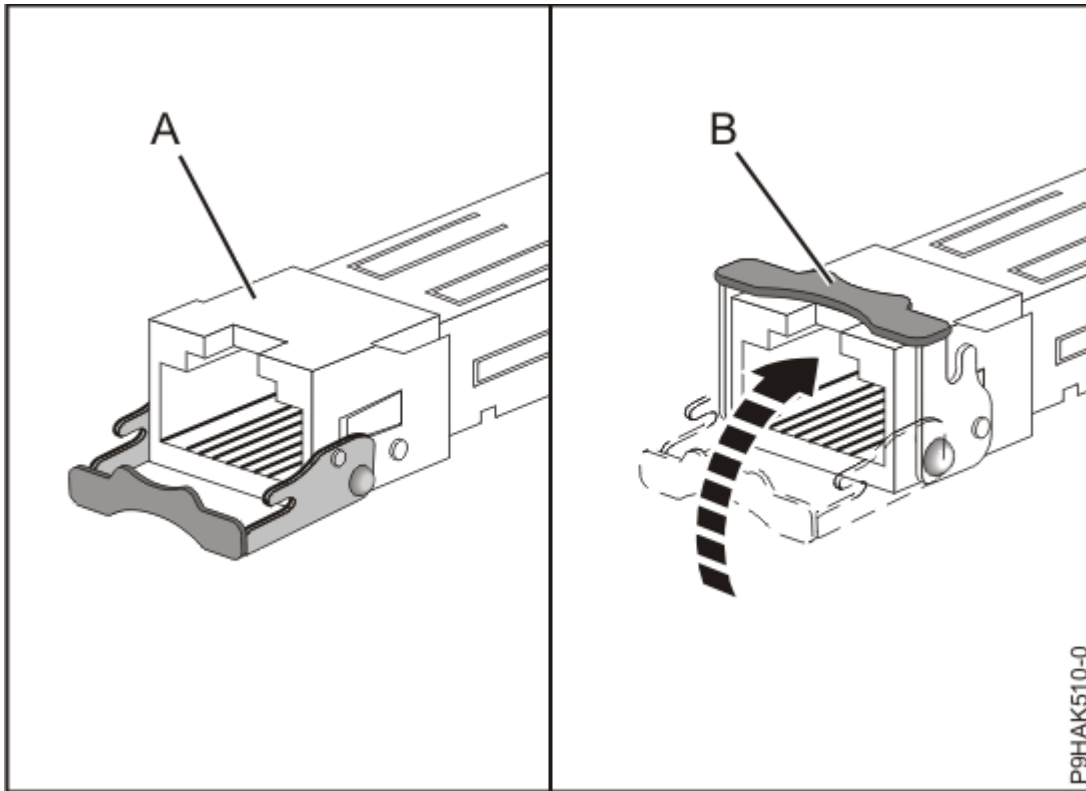

Figure 69. Replacing SFP transceivers in the adapter
- c) With the latch **(B)** in the open position, push the latch by rotating it up and toward the card as shown in Figure 69 on page 92.